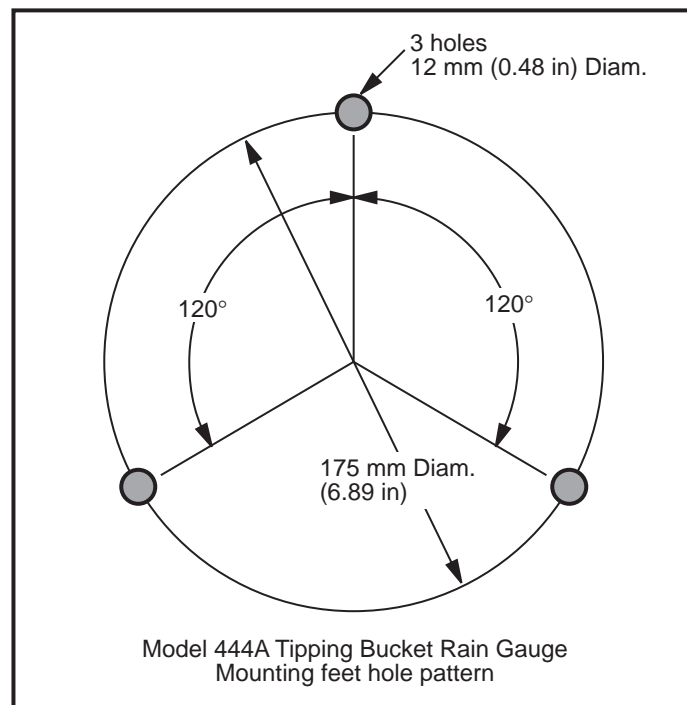

Figure 2-C Mounting hole pattern for the Model 444A Tipping Bucket Rain Gauge
1. The Rain Gauge stands on three L-shaped feet with 12 mm (0.47 inch) bolt holes drilled on a diameter of 175 mm (6.89 inch) (see Figure 2-C). Prepare a level surface at the chosen site with
5. Bring the signal cable through the hole in the base of the instrument near the terminals, which are located on the side of the support pedestal behind the tipping bucket (see Figure 2-B on page 13). Using a no. 1 Phillips screw driver, back out the terminal screws and attach the terminal lugs on the end of a standard cable. Other cables may end in tinned leads, which can be looped around the terminal screws. Since the Rain Gauge signal is simply a switch closure, there is no polarity to be observed in attaching the signal cable. Tighten the terminal screws to secure the leads.